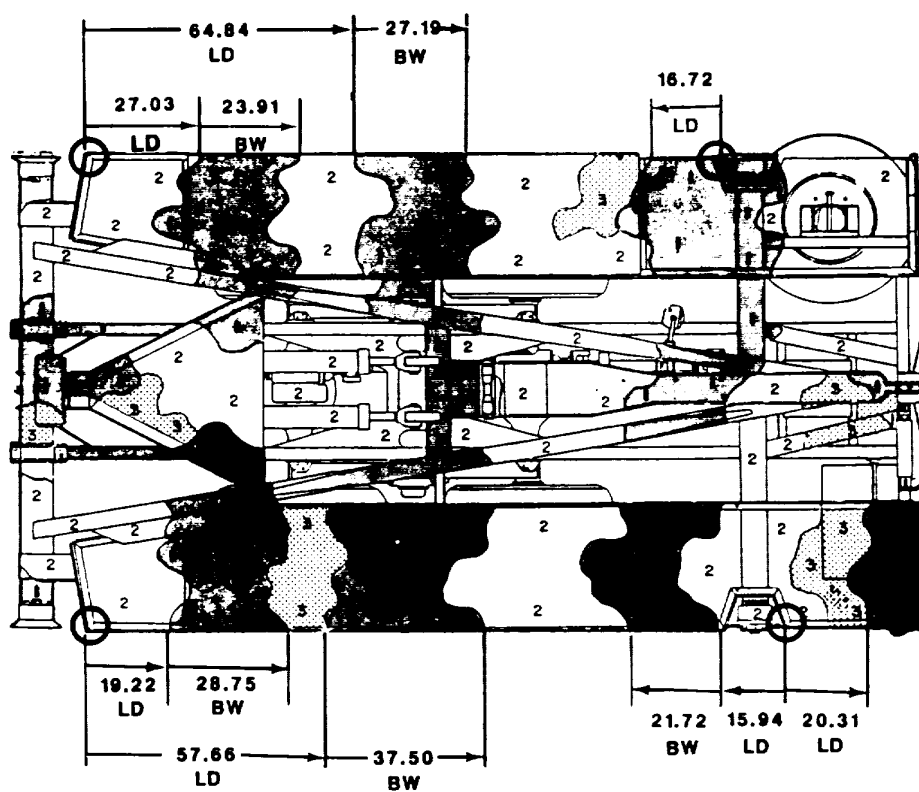

Figure 4-4. Typical Views on Inspection Worksheet.
a. *Reference Points (RPs).* RPs are denoted on inspection worksheets (figure 4-4) by small circles (o). They are usually (not always) located at the intersection of two physical line features, such as the corner of a door.
b. *Deltas.* Deltas are denoted by triangles (A) on the inspection worksheets (figure 4-4). They are reference points which are located within an inch radius of a black band border.
c. *Locating Dimensions (LDs).* The LD is the horizontal distance between a reference point and a black band border. The LD must be within + 1 inch of the dimension specified on the inspection worksheet (figure 4-4).
d. *Bandwidths (BW).* The BW is the distance between a point on one border of a black band and a point on a different border of the same band. Like the LDs, actual BWs must be within + 1 inch of those specified on the inspection worksheet.
(1) *Deltas.* A delta on the worksheet (figure 4-4) is indicated by a small triangle. Check these as follows:
(2) *LDs.* A LD on the inspection worksheet (figure 4-4) is a dimension (in inches) with arrows and lines from a RP, denoted by a small circle, to a point on a black band border. Check LDs as follows:
(f) If border is not on same horizontal plane as RP (see figure 4-4 for example), drop a plumb bob from the higher point, and measure distance from lower point to that point where its horizontal plane intersects plumb line. (Again, the overspray gauge can help distinguish the actual border line (para 4-13d(2)).)
(3) BWs. A BW on the inspection worksheet (figure 4-4) is a dimension (in inches) with arrows and lines from a point on a black band border to a point on an opposite border of same black band. Check these as follows: